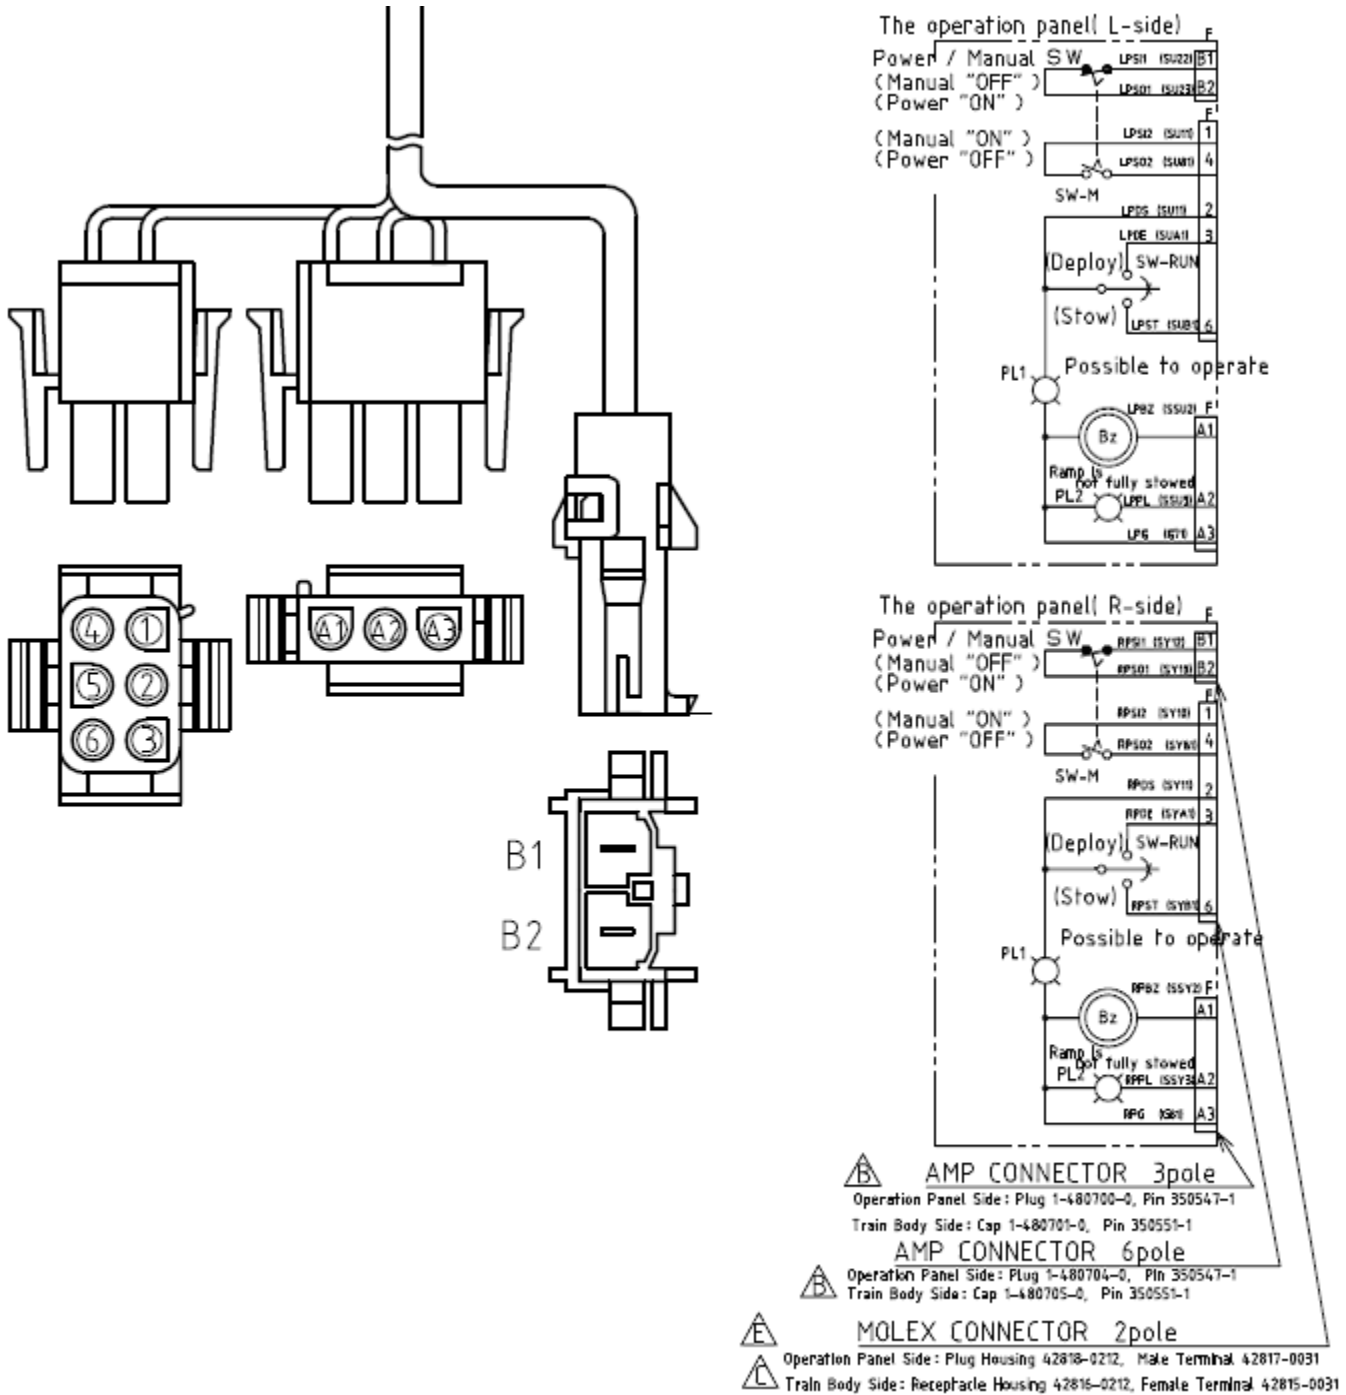

FIGURE 2-26
- c. Refer to **Figure 2-26**. Connect the plugs and the caps of the connectors firmly as shown on **Figure 2-26**.